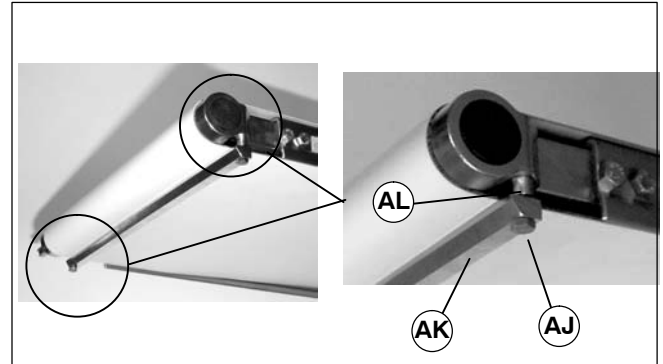

Figure 17
1. If installed, remove and retain two M5 hex head screws (AJ of Figure 17), bottom wiper (AK) and two sleeves (AL).
3. If removed, install sleeves (AL of Figure 17), bottom wiper(s) (AK) and M5 hex head screws (AJ). Tighten screws to 33 in-lb (3.7 Nm).
5. If removed, install sleeves (AL of Figure 17), bottom wiper(s) (AK) and M5 hex head screws (AJ). Tighten screws to 33 in-lb (3.7 Nm).